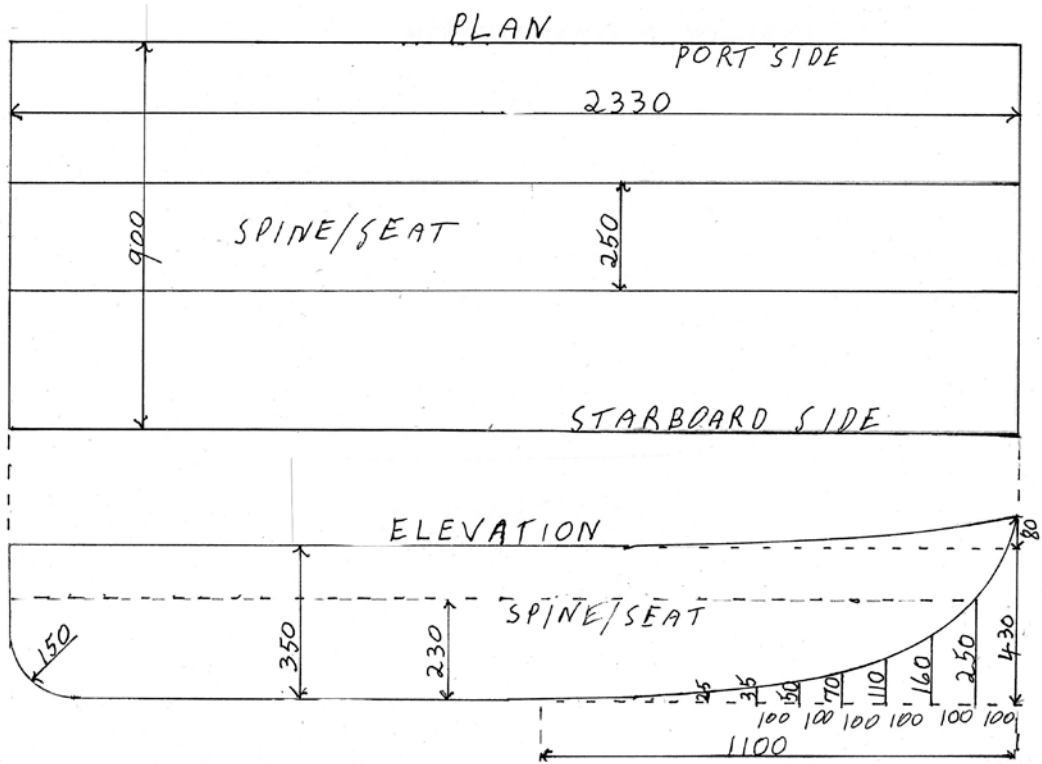

Figure 2.
2. Take the shape of the side from figure 2. All curved shapes will derive from this template. Use a flexible batten to get a smooth shape. The top sheer is a rise of 80 mm. and starts about a metre from the front and is designed to stop water slushing over the front. You will need to allow a few mm. here and there for the cut which is best made with a circular saw. The curve at the transom is the same as a four gallon (20 litre) can. If necessary make the spine top from the ply left over.